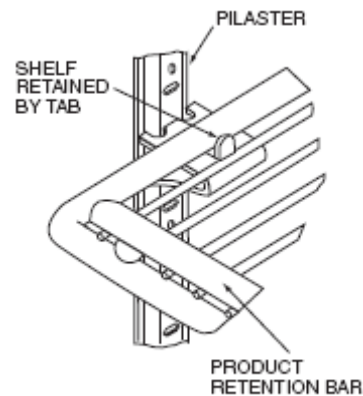

FIGURE 5 – PROPER INSTALLATION OF SHELF ON CLIP
6. Shelves must be placed so that the retaining tab on the shelf captures the shelf as shown in Figure 5.